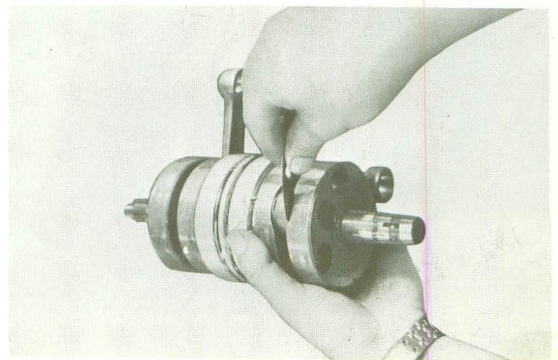

Fig. 4-17-23
(2) Checking the Connection Rod for Large Ebd Side Play. (Fig. 4-17-23)